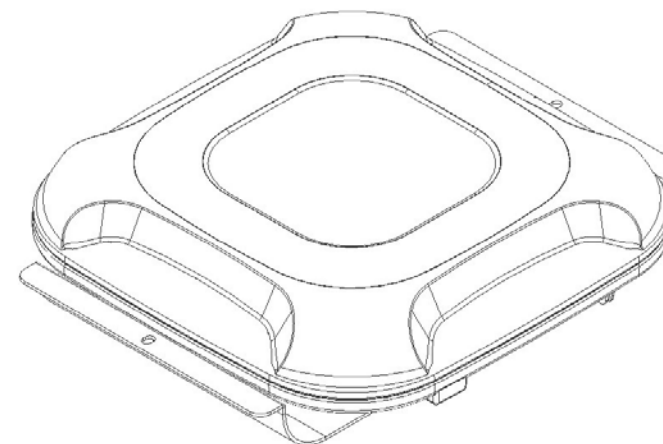

Figure 3
Step 7 – After the Ethernet cable has been attached to the *Cisco access point*, attach the *Cisco access point* to the *Oberon access point mounting bracket/Cisco mounting bracket assembly* (Ref. figure 3).